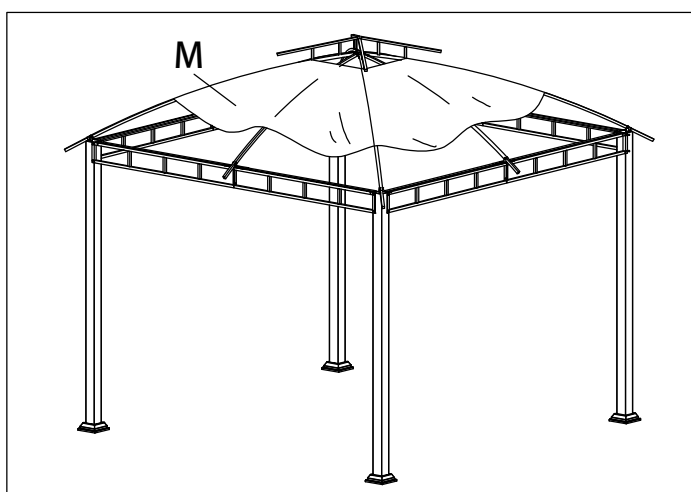

Fig.10
6.Place the Big Canopy (M) onto the frame of the gazebo .At this stage, DO NOT ENFOLD and drage the Conopy (M) , Put the Small Canop (P) onto the small top.see Fig.10-Fig.11.